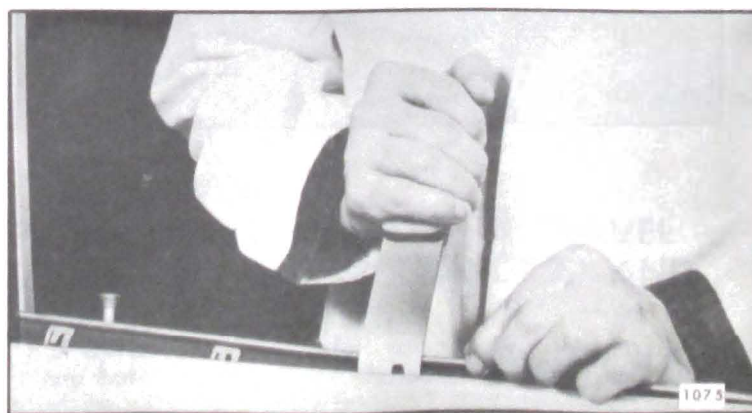

Fig. 7-81—Glass Run Channel Inner - Outer Strip Assembly Removal - "A-X & Z" Styles
- Insert a flat blade tool (slotted to fit over tang of clip) between door panel return flange and strip assembly at clip locations (Fig. 7-81). Carefully pry clips from slots in panel and remove strip assembly.